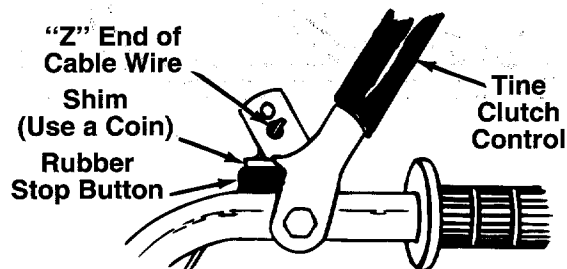

FIGURE 3.
5. Place an approximately 1/16 inch shim on top of rubber stop button (use a coin—nickel or penny) and lift tine clutch control so it is against coin. Hold in this position. See figure 3.
The clutch control lever is located on the left handle. Refer to figure 3. Squeezing the lever against the handle engages the tine drive. Release the lever to stop the tines from turning.